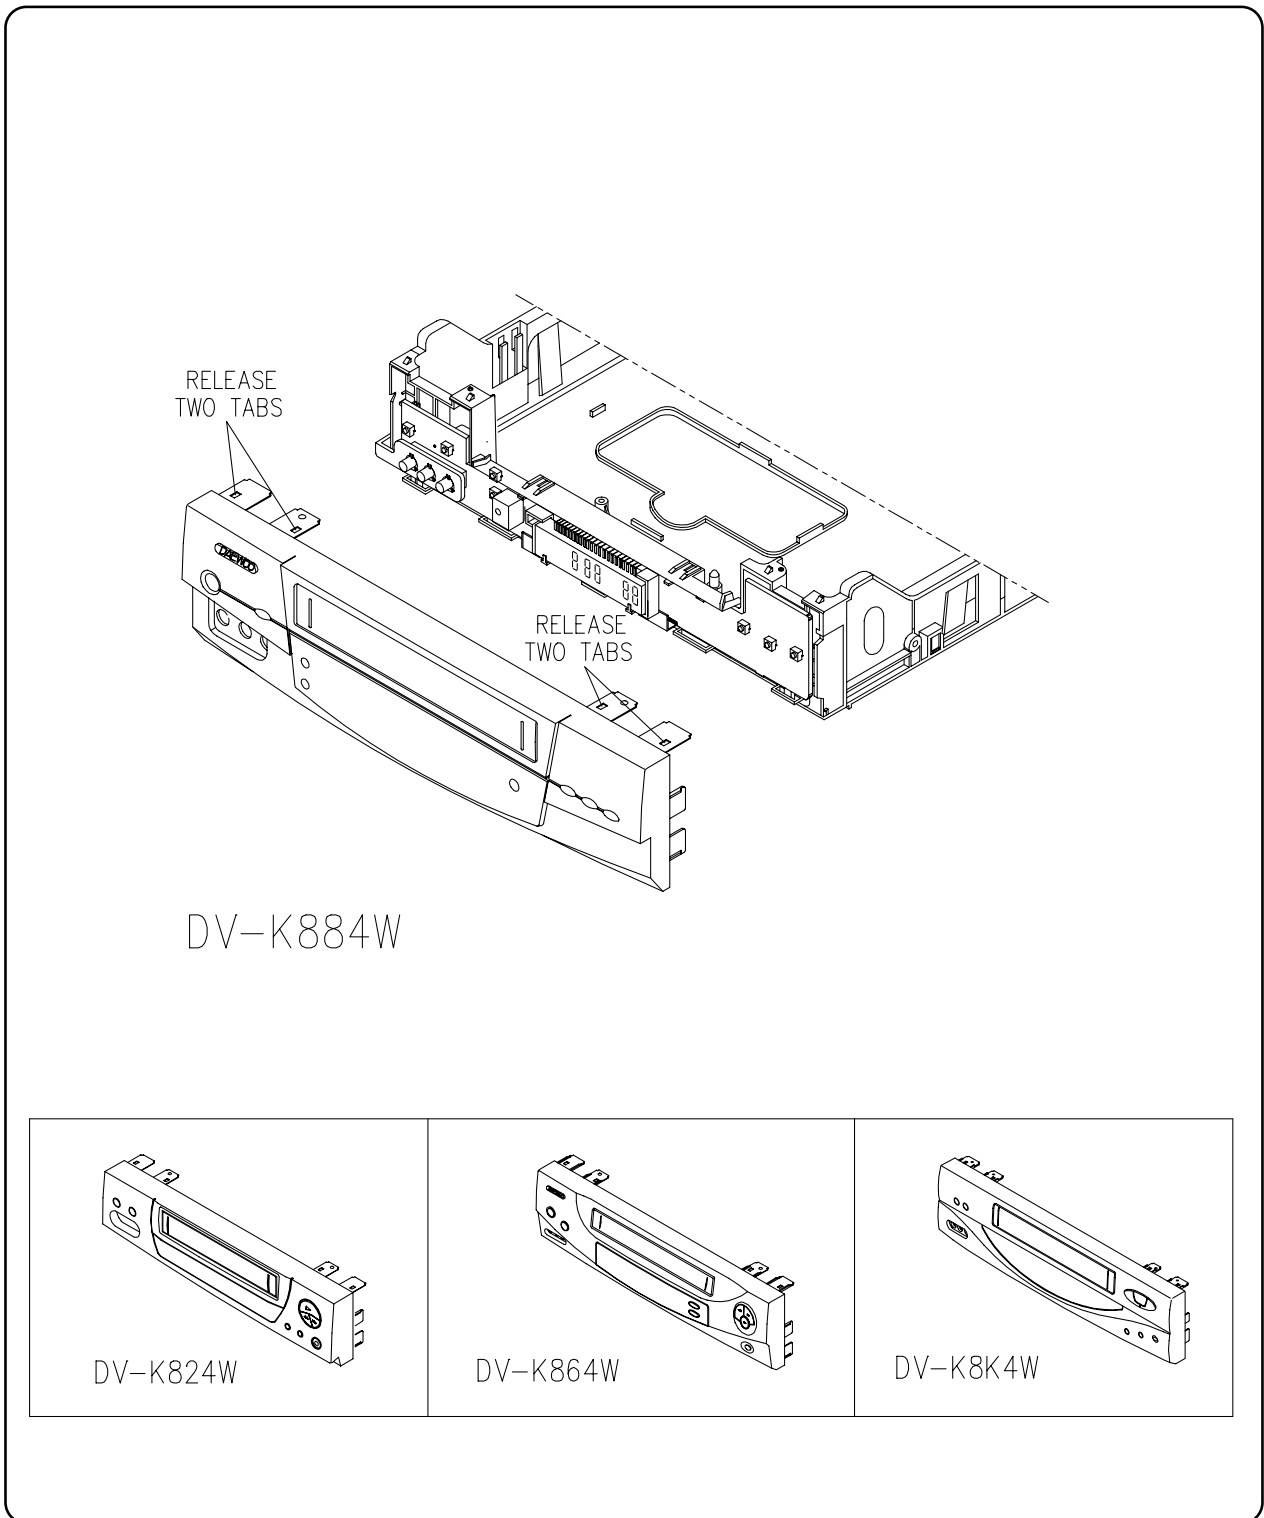

FIG. 2-1
2. FRONT PANEL REMOVAL (FIG. 2-1)